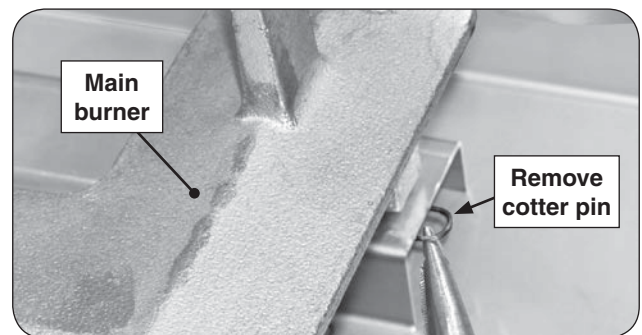

Fig. 34-2 Main burner removal
2. Locate and remove the cotter pin from the left or right rear burner anchoring peg by pulling it straight out of the cotter pin hole using fingers or needle-nose pliers. See Fig. 34-2.